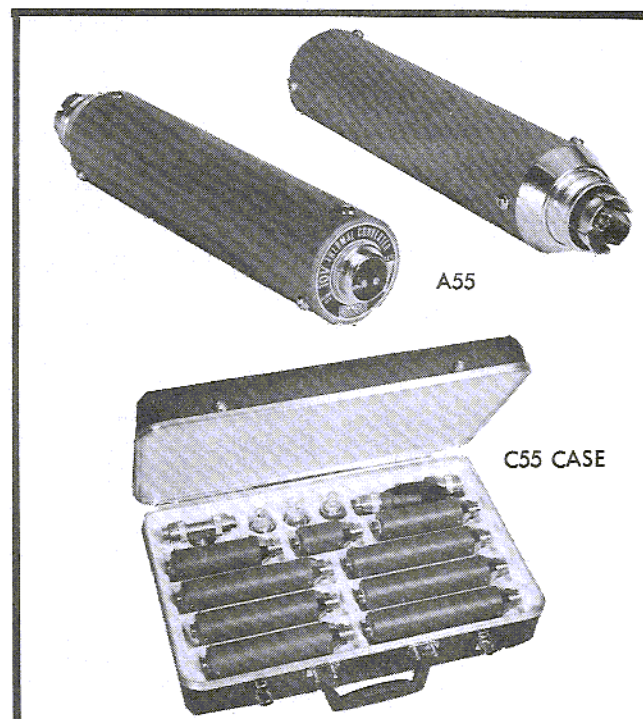

Figure 6-1. MODEL A55 THERMAL CONVERTERS AND ACCESSORIES
- d. To store the Model A55 Thermal converters and accessories, a Model C55 case with a molded high impact styrene insert is available (see Figure 6-1). The Model C55 is designed to accommodate a complete set of nine converters.